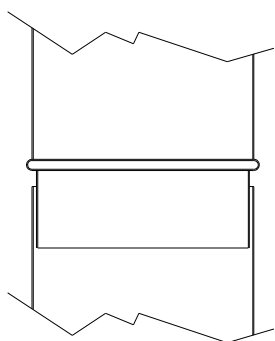
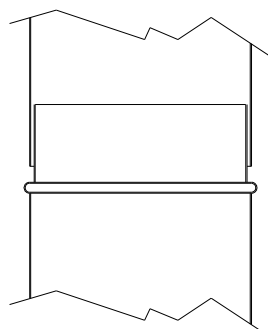

Figure 1.
Figure 2.
- When the pipes run through the inside of the home or a brick chimney, they should be mounted as shown in Figure 1 to prevent liquids produced by the condensation of the gases flowing through the joints and out of the pipes. If a pipe section runs outside the building it must be mounted in the direction shown in Figure 2 to prevent rainwater draining down the pipe and entering into the pipe interior through the joints.